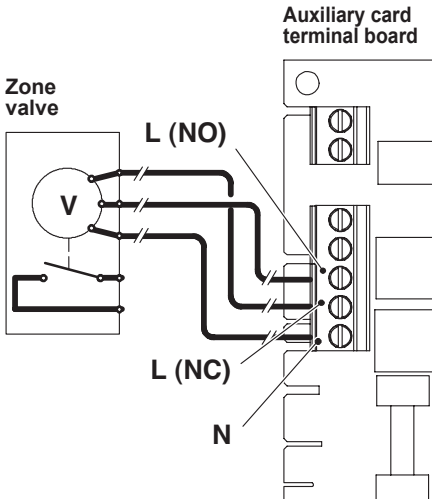

Fig. 6.24
For the connection of the zone valve use the terminals from the auxiliary card **N** (common neutral), **L (NO)** line 230V ~ (valve opens heating system), **L (NC)** line 230V ~ (valve closes heating system) Fig. 6.24.